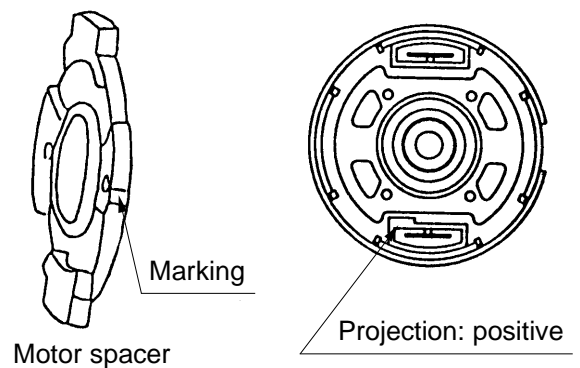

Fig. 8
- (b) Pay attention to the polarity of the Motor [26] when soldering the Internal Wires [34] and [37] to the Motor [26]. The projected side of the Motor [26] is positive. (Fig. 8)